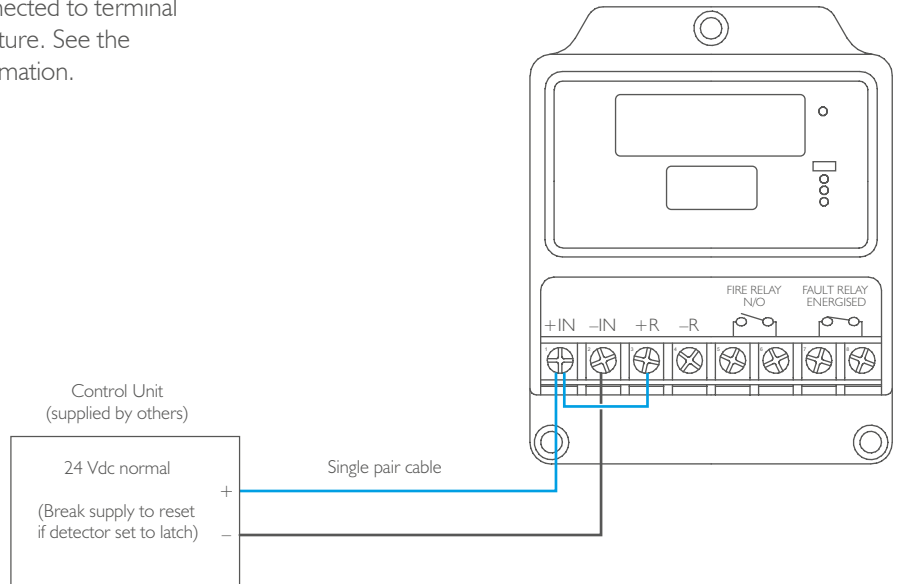

Figure 12. Basic two-wire connection diagram
- 1) Current signaling. The detector can be connected as a two-wire loop-powered device, increasing its supply current to signal that a flame has been detected – see Figure 12 (Note: not FM-approved).